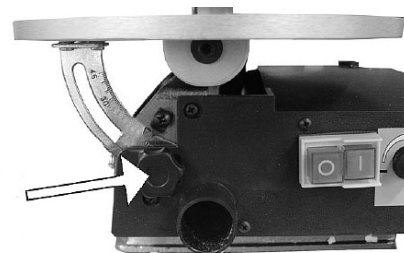

Fig. 15: Tilt the saw table
Step 3: Release the table lock knob (Fig.15) and tilt the table until it is approximately at right angles to the blade.